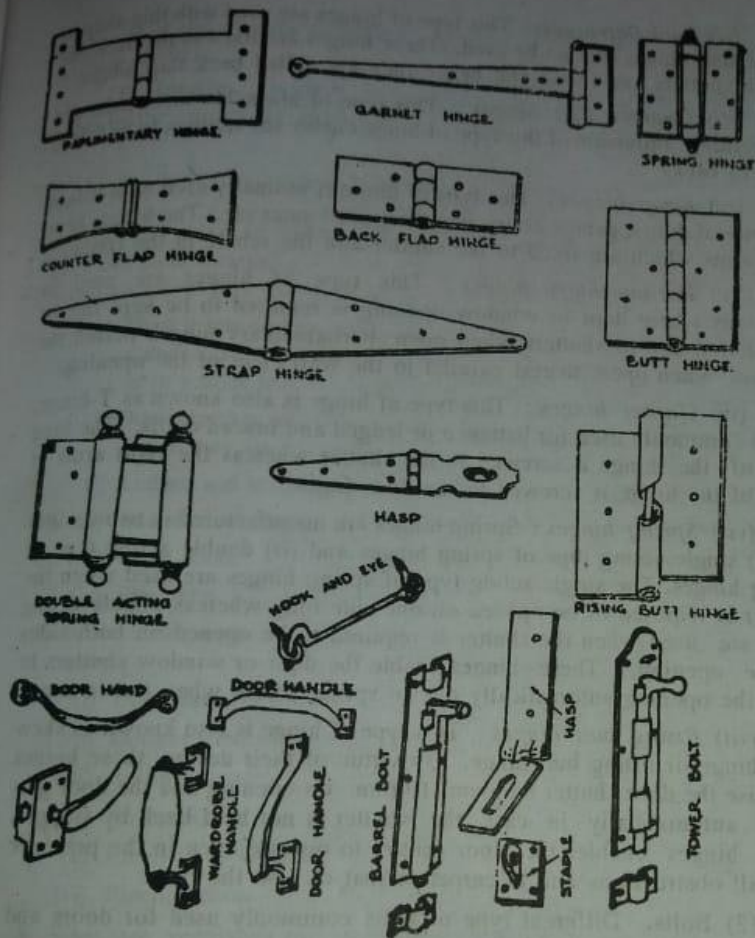

Fig. 17-57
(3) **Handles.** Handles are manufactured in a variety of designs. Some of the commonly used types of handles are shown in Fig. 17-57.